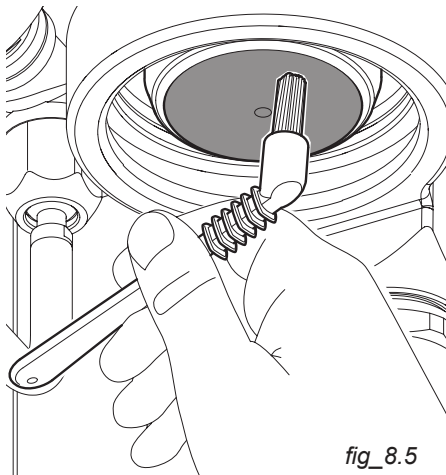

fig. 8.5
3. Scrub the inside of the unit head with the unit cleaning brush supplied (fig. 8.5).